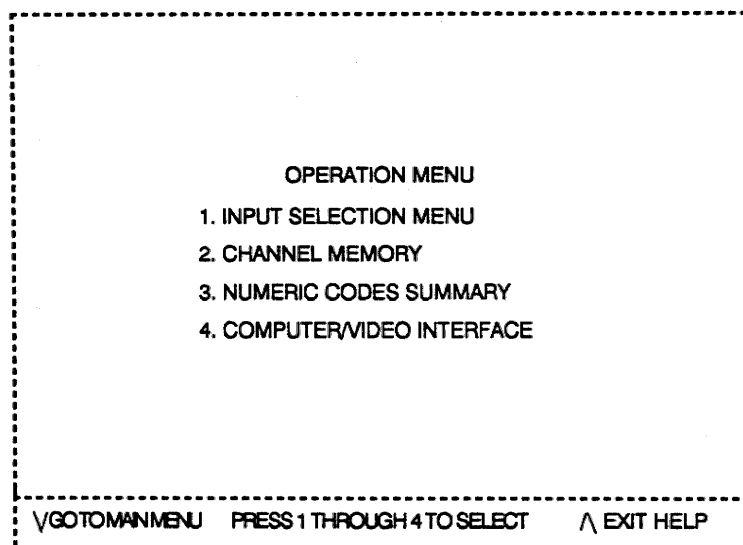

FIGURE 8-5. OPERATION MENU SELECTIONS.
This selection provides information on the special functions and operation of the ESPRIT system. See Figure 8-5.
1. INPUT SELECTION MENU: This selection will switch you to the following on- screen menu for your selection of a brief description of the different modes of operation. See Figure 8-5.